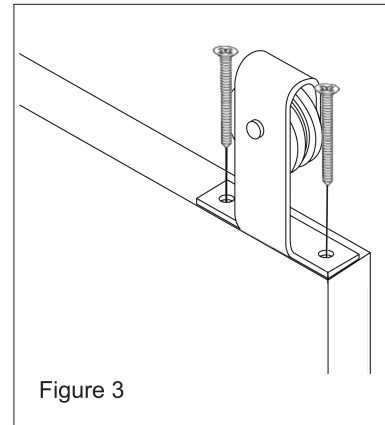

Figure 3
5. Attach the hanger to the door using two hanger fastener screws (provided). Repeat the process on the opposite end of the door (Figure 3).